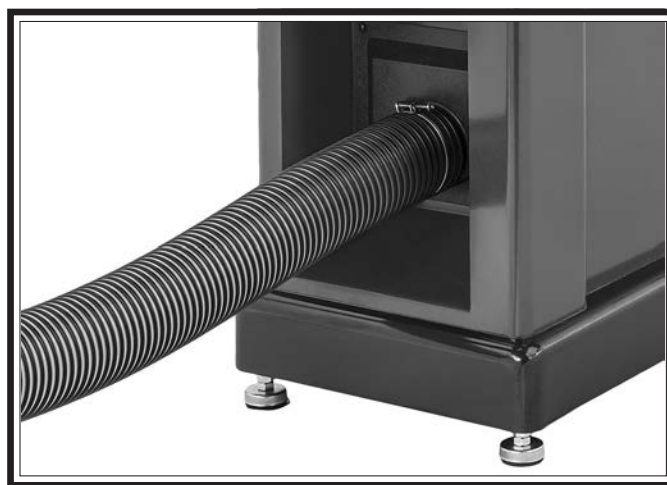

Figure 16. Example of dust hose attached to dust port.
1. Fit a 6" dust hose that is connected to a dust collector over dust port, and secure in place with a hose clamp (see **Figure 16**).